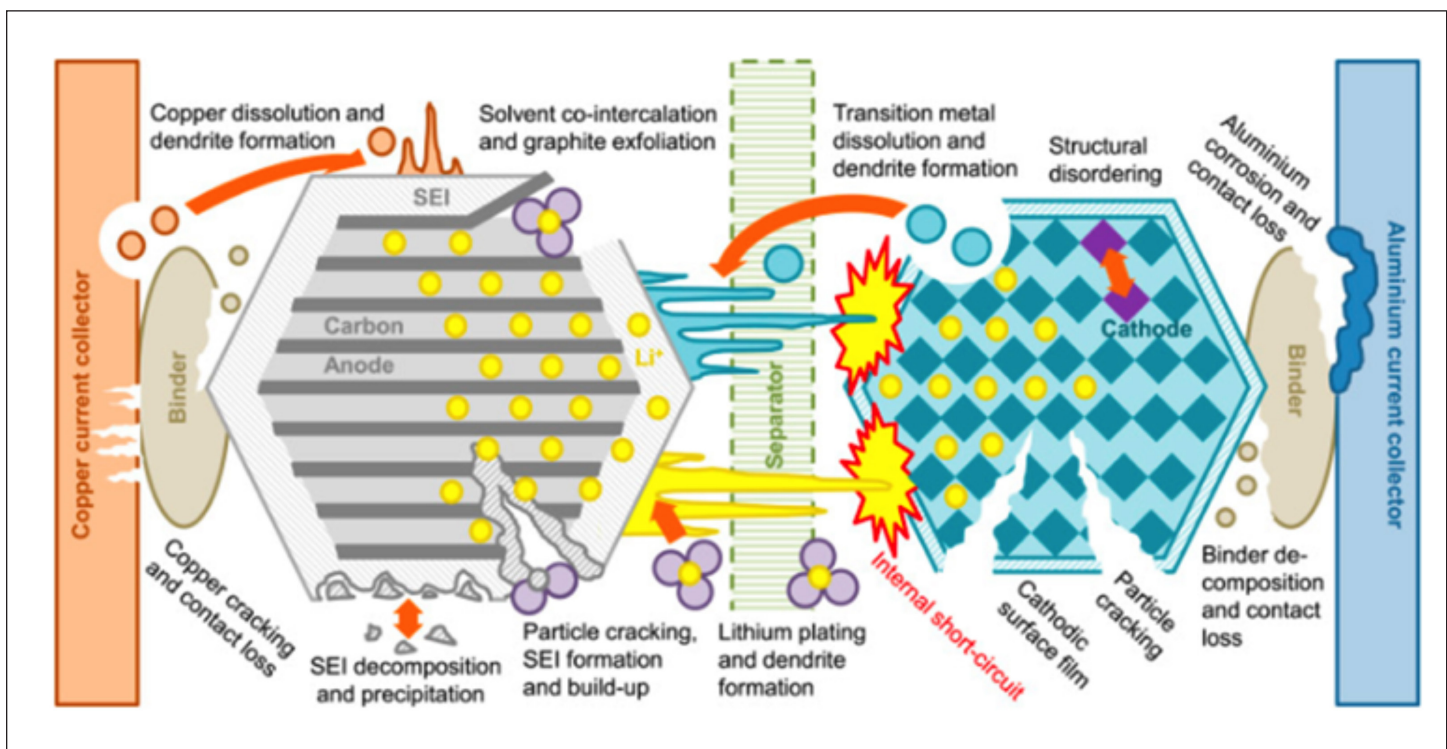

Figure 10: The Different Forms of Degradation on a Li-ion Battery
- Second is dendrite formation, which can form anywhere within the battery. This causes a disruption in performance. Figure 10 provides illustration of how this formation can occur shown as extensions coming off the anodes in the yellow, orange, and teal color.